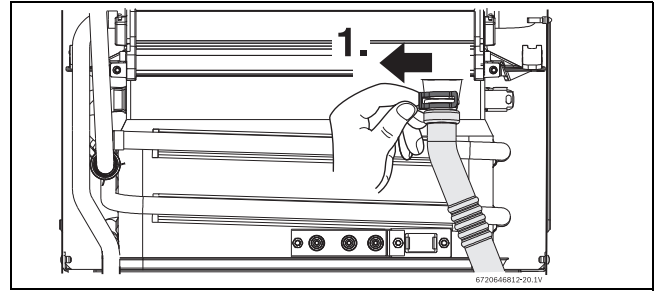

Fig. 35 Disconnect drain tube
- ▶ Remove the clip and disconnect the drain tube, see fig. 35.